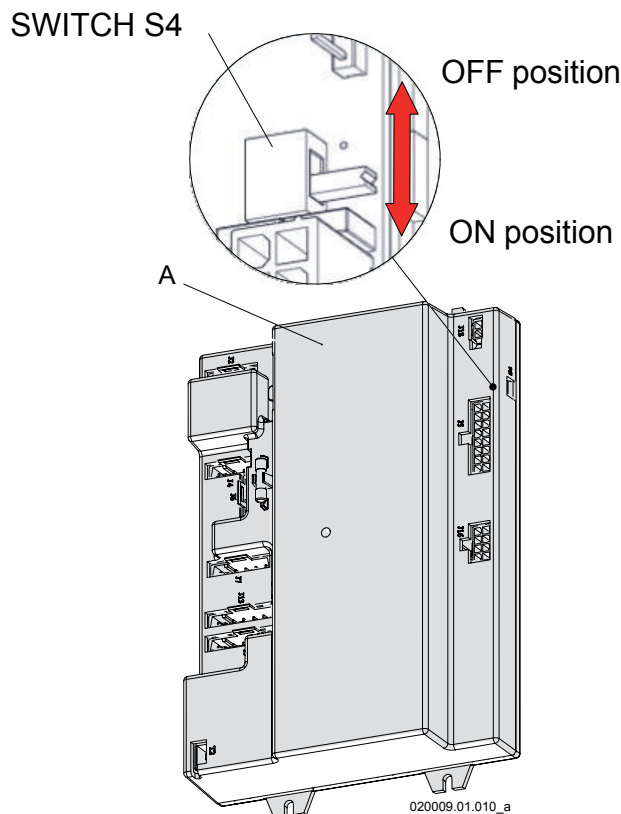

Figure 17-13 Control board "A"
9. move "Switch S4" as per Figure 17-13, from OFF position to ON position;